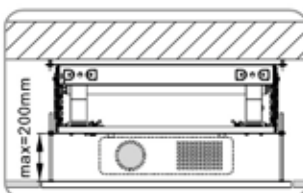

Figure 22
14. Adjust the height of decorative ceiling plate depended on the actual ceiling height, and twist setscrew nut on the 200mm long screws assembled in the four corners of decorative ceiling plate. The max height is about 200mm( Figure 22). Please tightening screws to avoid looseness.